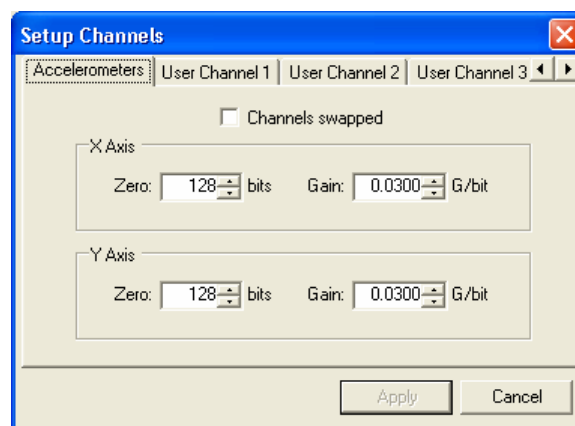

Figure 37 - Setup Channels Dialog (Accelerometers Page)
1. Choose **Setup** ➔ **Channels** from the main menu. The Setup Channels Dialog (Figure 37) appears.
Click the **Accelerometers** tab to display the Accelerometers page (Figure 37) of the Setup Channels Dialog.